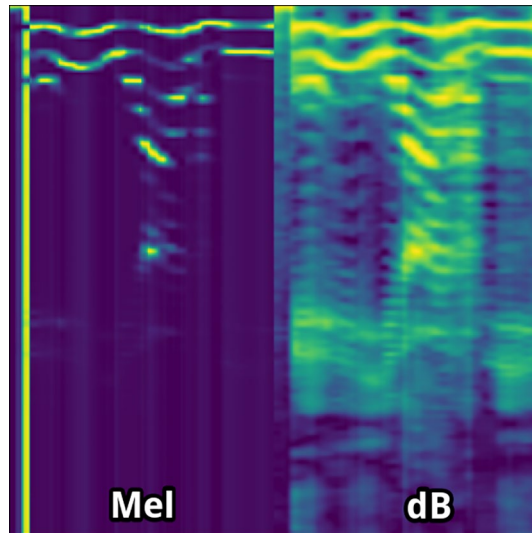

Figure 6-7. *Mel spectrogram before (left) and after (right) logarithmic compression*
- **Spectrogram:** The result of the STFT is a spectrogram, a two-dimensional signal representation. The horizontal axis represents time, the vertical axis represents frequency, and the intensity at each point represents the amplitude or energy of that frequency at that particular time. For a more intuitive understanding, you can visualize this matrix as an image (see Figure 6-7, left).
- **Logarithmic compression (dB):** After applying the Mel filter banks, we take the logarithm of the resulting energies. This step is crucial because human perception of loudness is approximately logarithmic. It helps compress the spectrogram's dynamic range, making quieter sounds more visible and reducing the dominance of louder sounds (see Figure 6-7, right).